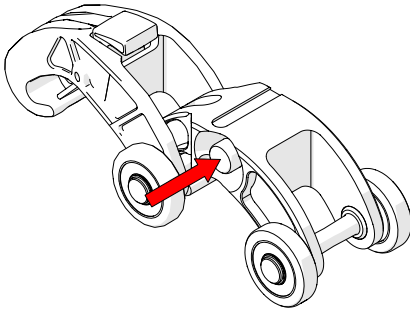

Fig. 29 - Press red button
1. Press the button on the side of the Dovetail QuickLink (*Fig. 29*).